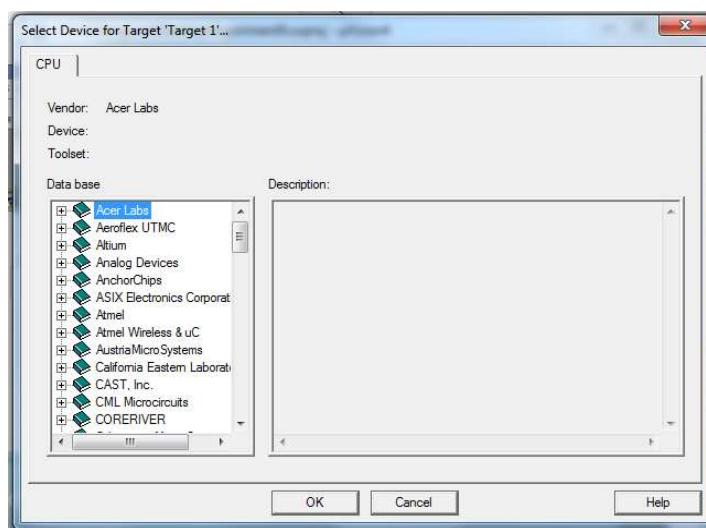

Figure 9.5: Selecting device.
- 4) After entering a file name, e.g., 'Experiment9', a new window will open as shown in Figure 9.5.